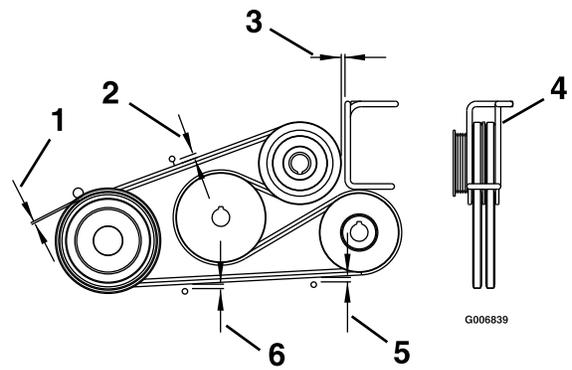

Figure 60
4. Adjust the belt guides as shown in Figure 60.